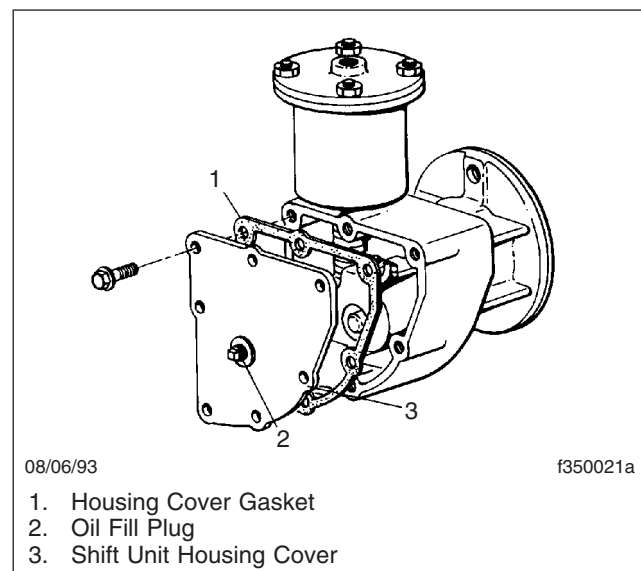

Fig. 9, Two-Speed-Axle Shift Unit
- 1. Remove the shift unit housing cover. See **Fig. 9**. Drain and discard the old lubricant. Discard the housing cover gasket.
1. Clean the shift unit oil fill plug, and the area surrounding the plug. See Fig. 9. Turn the fill plug counterclockwise to remove it.